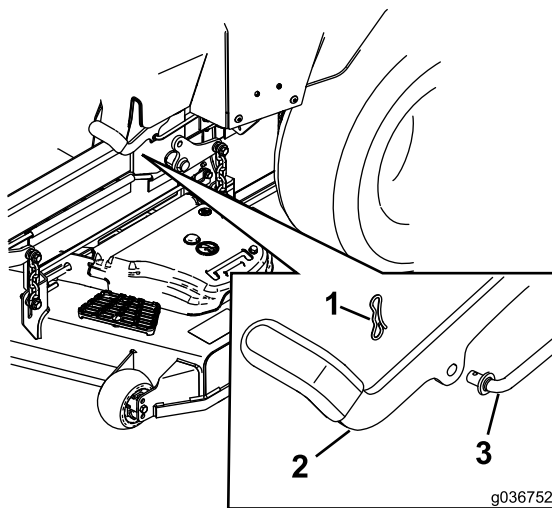

Figure 61
6. If an adjustment is necessary, disengage the parking brake. Remove the cotter pin from the brake linkage shaft (Figure 61).